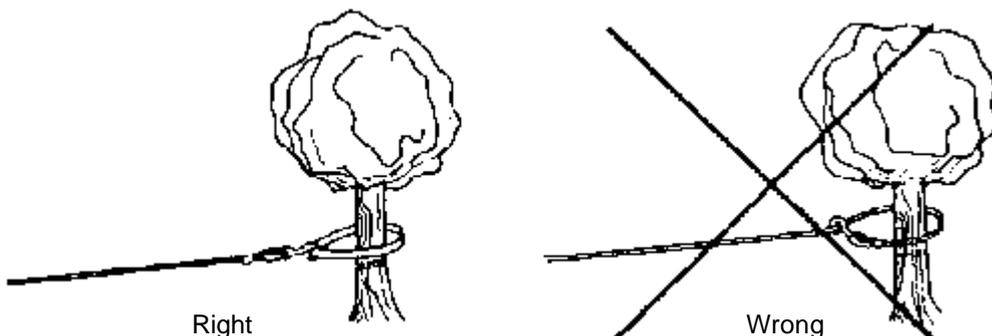

Fig. 7
- 1.7 **Never hook the rope back onto itself.** Hooking the rope back onto itself creates an unacceptable strain, breaking individual strands which in turn weakens the entire wire rope. Use the sling as shown in Fig. 7.